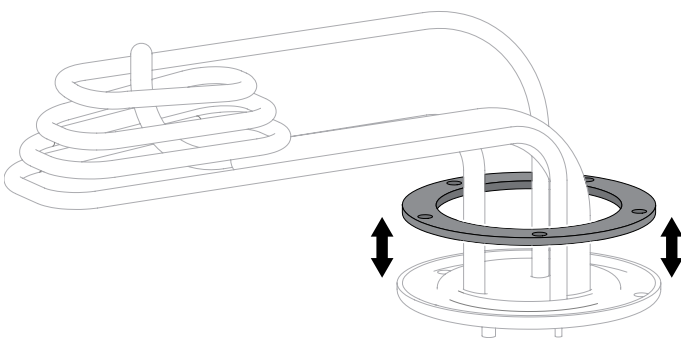

Figure 29: Immersion heater gasket removal
- ▶ Remove and discard the immersion plate seal, then fit a new replacement part see figure 29. For part number see spares page 30, spares number 29.